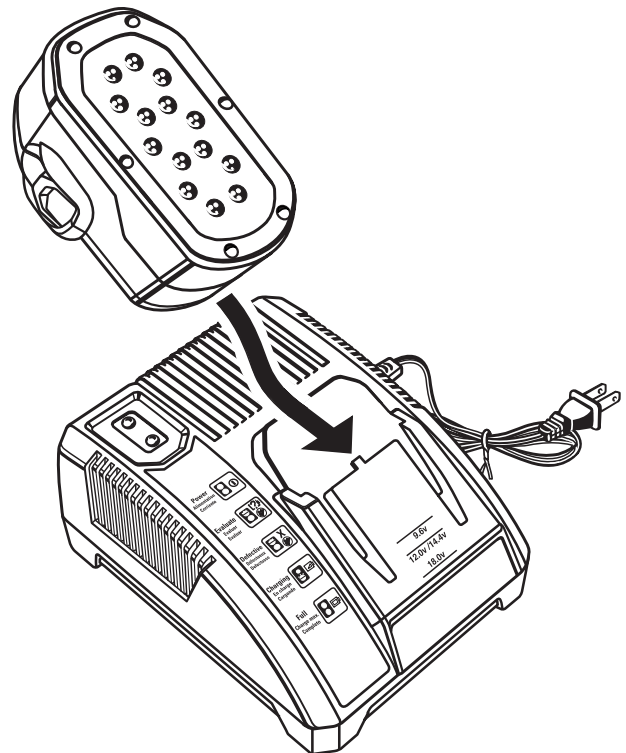

Fig. 5
- Attach the battery pack to the charger by aligning the raised ribs on the battery pack with the grooves in the charger, then slide the battery pack onto the charger. See *Figure 5*.